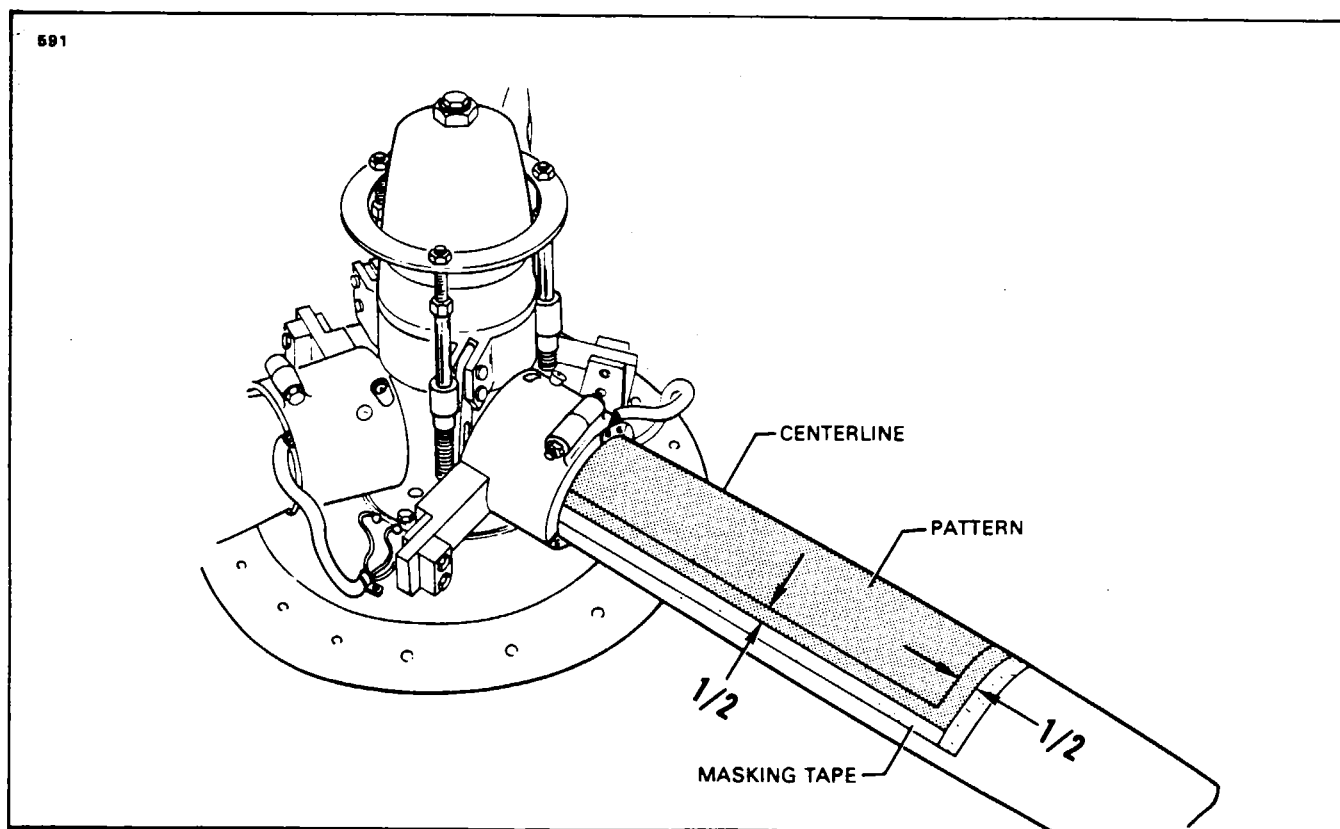
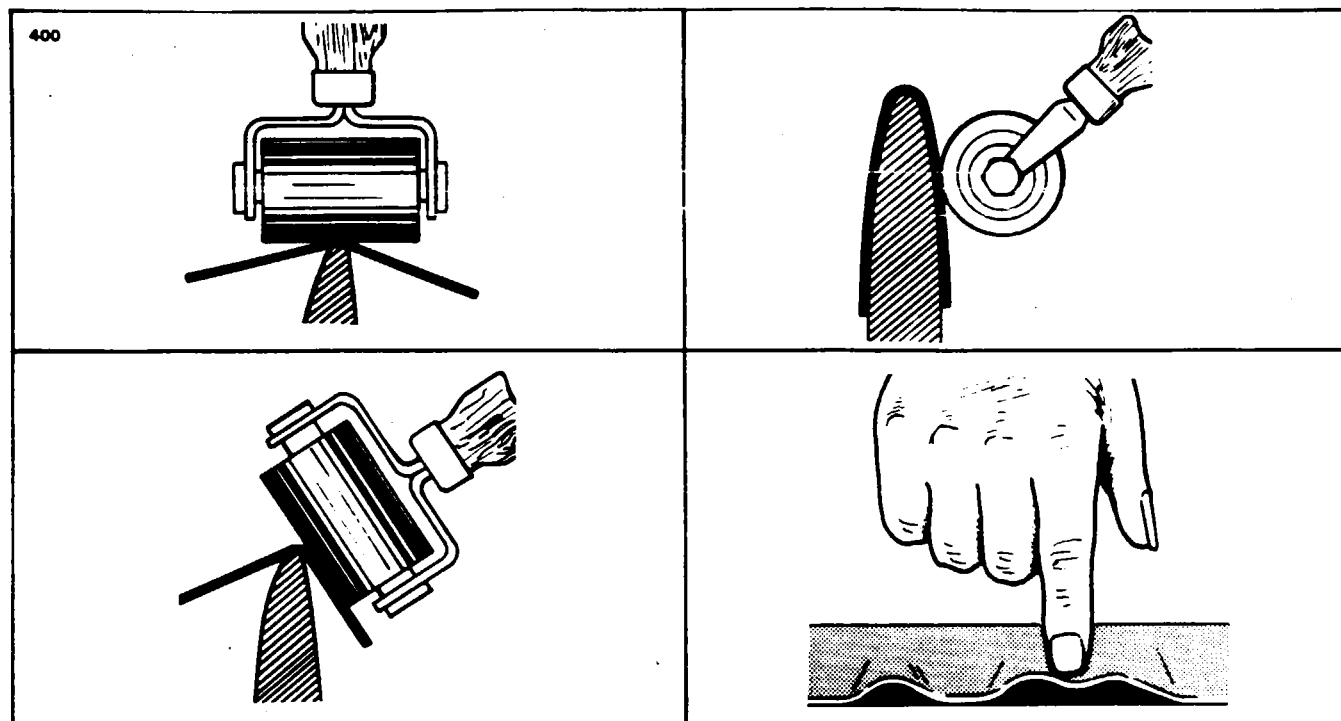

Figure 30-24. Installation of Deicer Boots (Typical)
Figure 30-25. Wrinkled Deicers
1. Mark and cut from masking tape a pattern the size of propeller deicer. (Refer to Figure 30-24.)
- A. Position in the deicer on the propeller leading edge, using centerlines starting from the hub. (Refer to Figure 30-24.) Make sure that the strap will fall in the position previously marked. Working towards the tip, tack the deicer centerline to the leading edge of the propeller blade. Use tackifying solvent as necessary. If the deicer is allowed to get off course, pull up with a quick motion and remove deicer. Recement if necessary before proceeding. Roll firmly along the centerline with a rubber roller, as shown in Figure 30-25.
WRINKLED DEICERS. (Refer to Figure 30-25.)